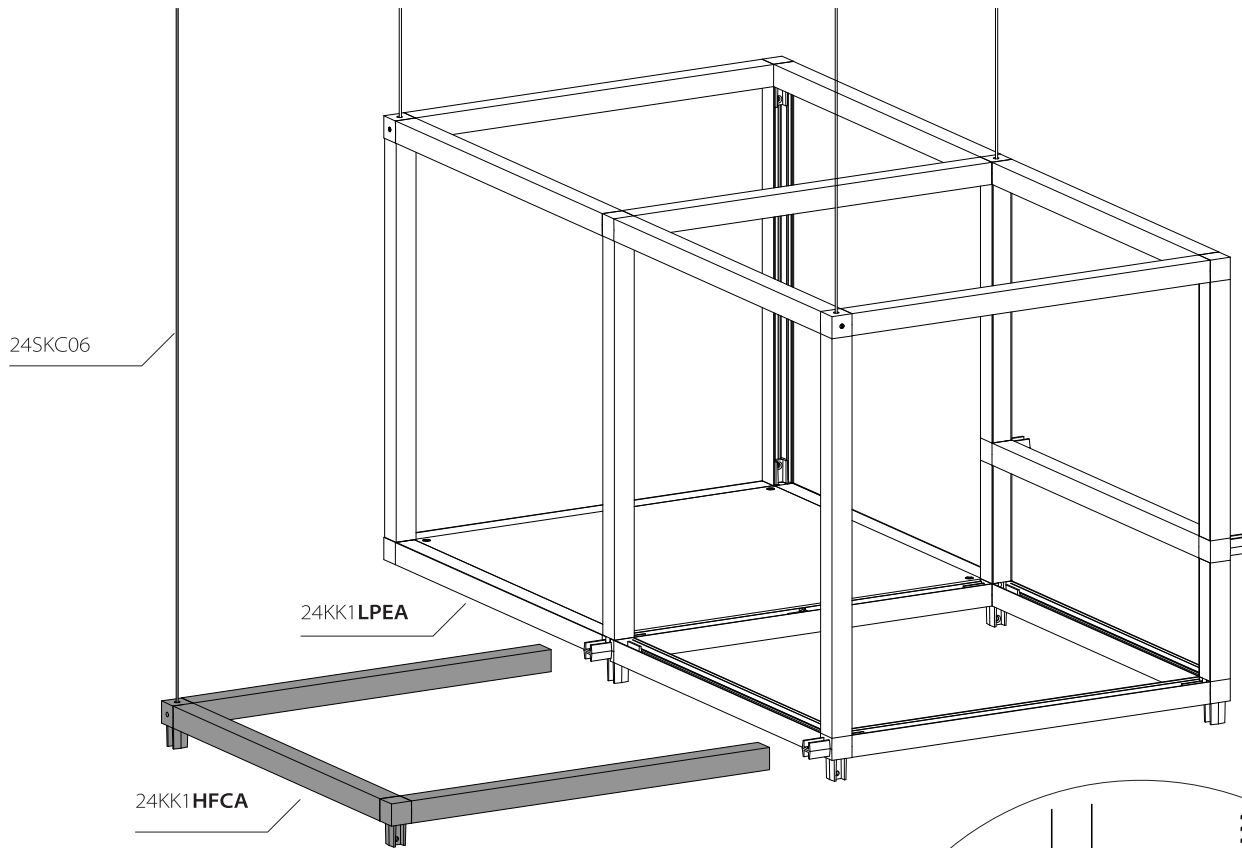

Fig. 7a
- 5a. Install 24KK1HFCA to 24KK1LPEA assembly as shown in Fig. 7a. Install 24SKC06 to hanging corner and tighten set screw with included Slotted Screwdriver.